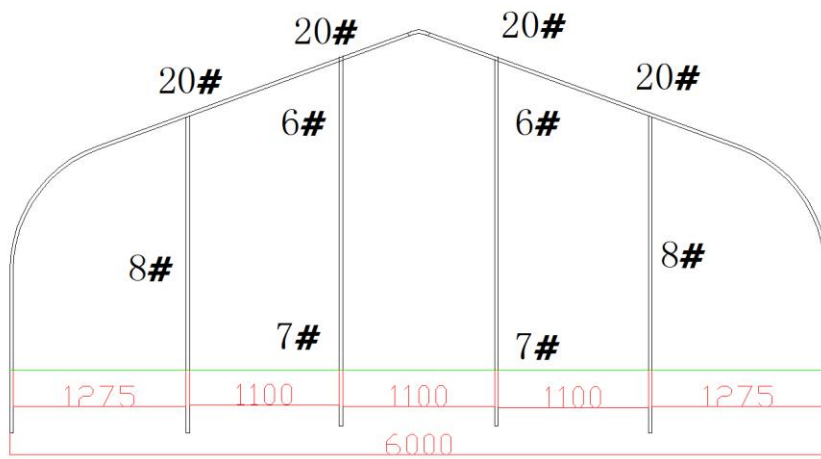

Figure 8
a. Insert the vertical tubes (No. 7 & 8) into the drilled holes, compact the bottom of the holes, and fill the hole walls with solid soil. Ensure that both gable ends form a plane perpendicular to the longitudinal direction. Shown as Figure 8 & 9.